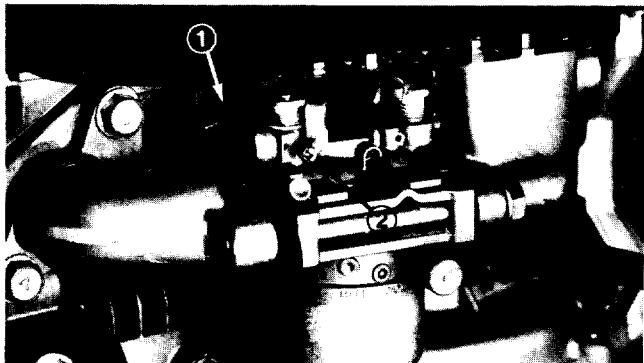

Figure 16
1. Idle Mixture Screw (Fig. 16) — Close screw by gently rotating it clockwise.
2. Rotate — open — the screw 1-1/8 turns counter-clockwise (Fig. 16).